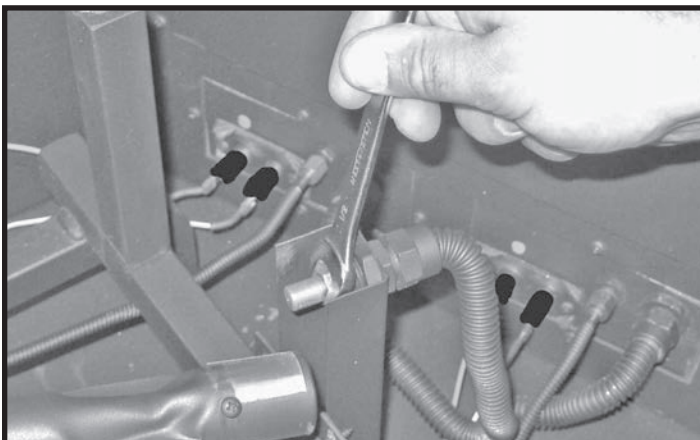

Figure 38: Replacing upper burner orifice.
6. Remove the old orifice. Apply a small amount of pipe joint compound to the threads of the new orifice (marked 2.26 mm) and secure with a 1/2" wrench (Figure 38).